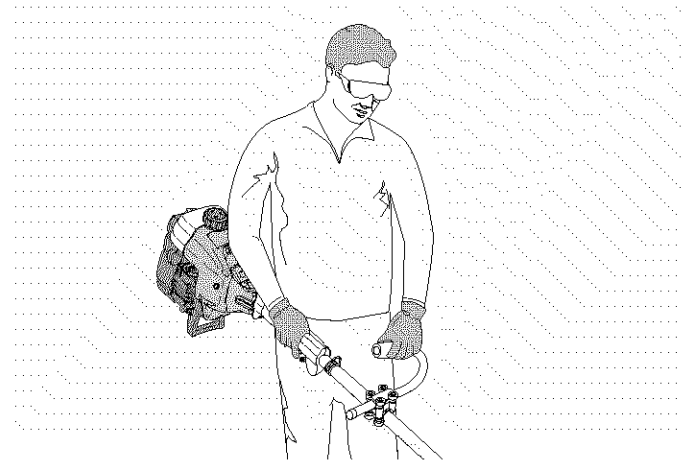

Fig. 3
8. While holding the unit in the operating position (Fig. 3), position the assist handle to the location that provides you the best grip.